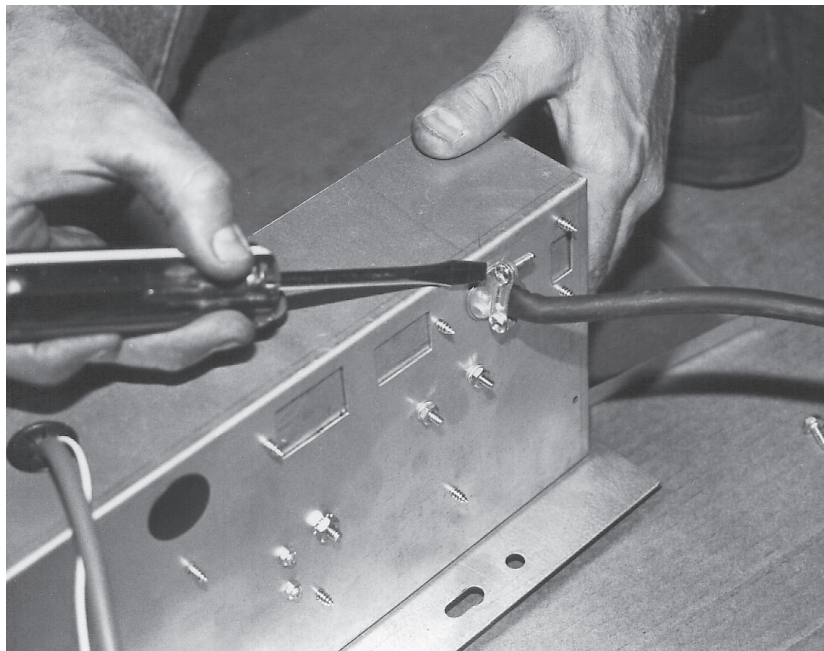

Fig. 86
3. From the rear of the box with a flat blade screwdriver, remove (2) screws holding the cord mounting clamp to the box. (Fig. 86)